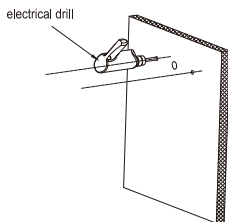

Fig 39
Step 3 . Drilled the wall with an electric drill with a diameter of $\phi 10\text{mm}$ and a hole spacing of 120-205mm, as shown in Fig. 39